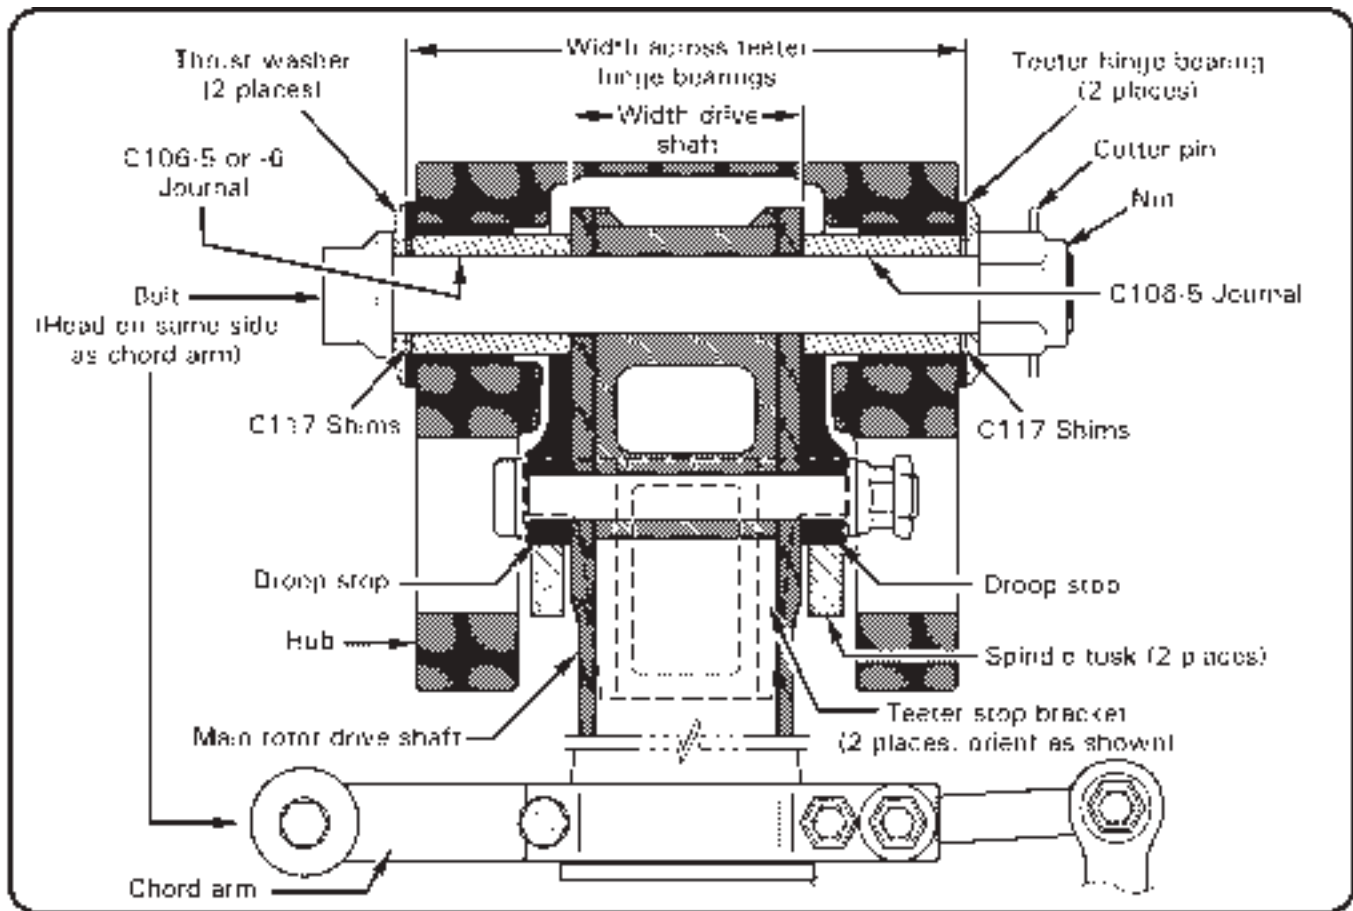

FIGURE 9-5 TEETER HINGE (HUB INSTALLATION)
2. Refer to Figure 9-5. Mark rotor hub using a grease pencil, tape, or soft marker as follows:
3. Refer to Figure 9-5. Line up mark on hub with chord arm on drive shaft. Install teeter hinge bolt, thrust washers, shims, and journals (if previous installation information is available, install parts exactly as removed).
2. Refer to Figure 9-5 and Table 9-1. Remove cotter pin, nut, thrust washer, and nut-side C117 shims. Adjust teeter hinge friction by changing nut-side shim stack thickness in small increments; reducing shim stack thickness increases friction, increasing shim stack thickness reduces friction. Install shims, thrust washer, and nut.